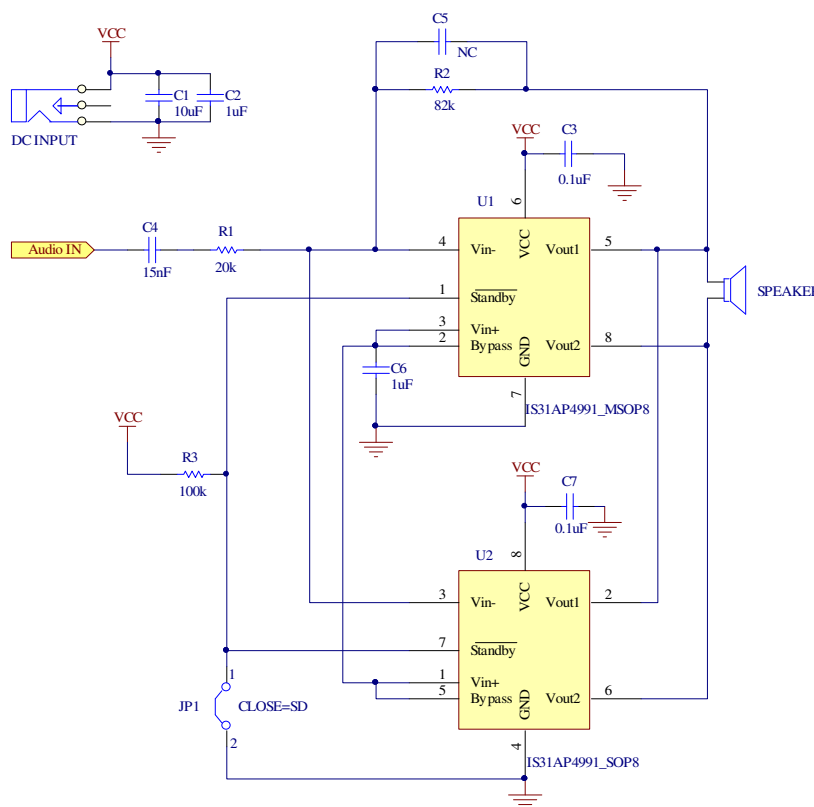

Figure 2. IS31AP4991 Application Circuit
*Table 2. Please refer to Figure 2 for additional information.*